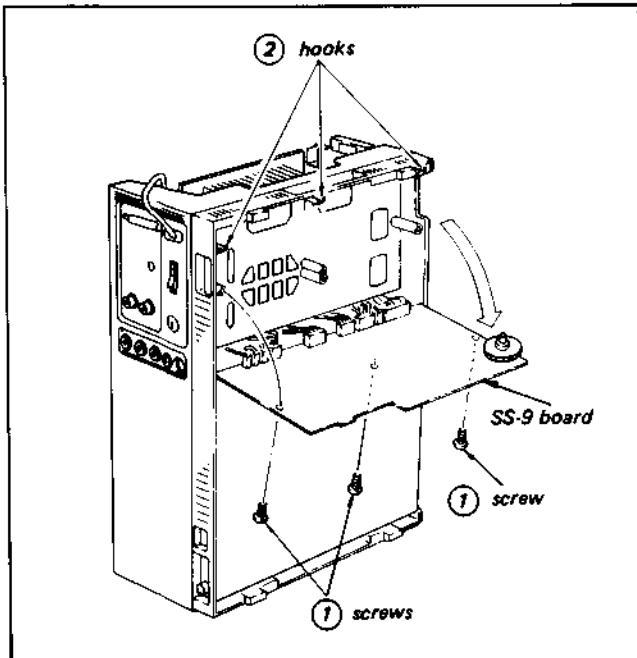

Fig. 1-4b. SS-9 board removal
5. SS-9 Board Removal (See Fig. 1-4b)